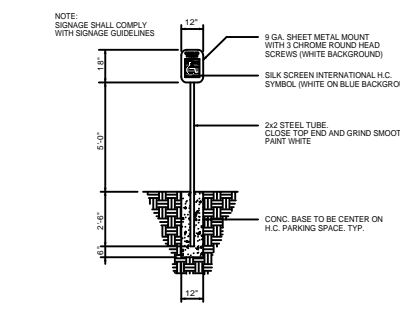

FIG. 43 INTERNATIONAL SYMBOL OF ACCESSIBILITY
- 4.30.5 SYMBOLS OF ACCESSIBILITY. ACCESSIBLE FACILITIES REQUIRED TO BE IDENTIFIED BY 4.1 SHALL USE THE INTERNATIONAL SYMBOL OF ACCESSIBILITY. THE SYMBOL SHALL BE DISPLAYED AS SHOWN IN FIG. 43.